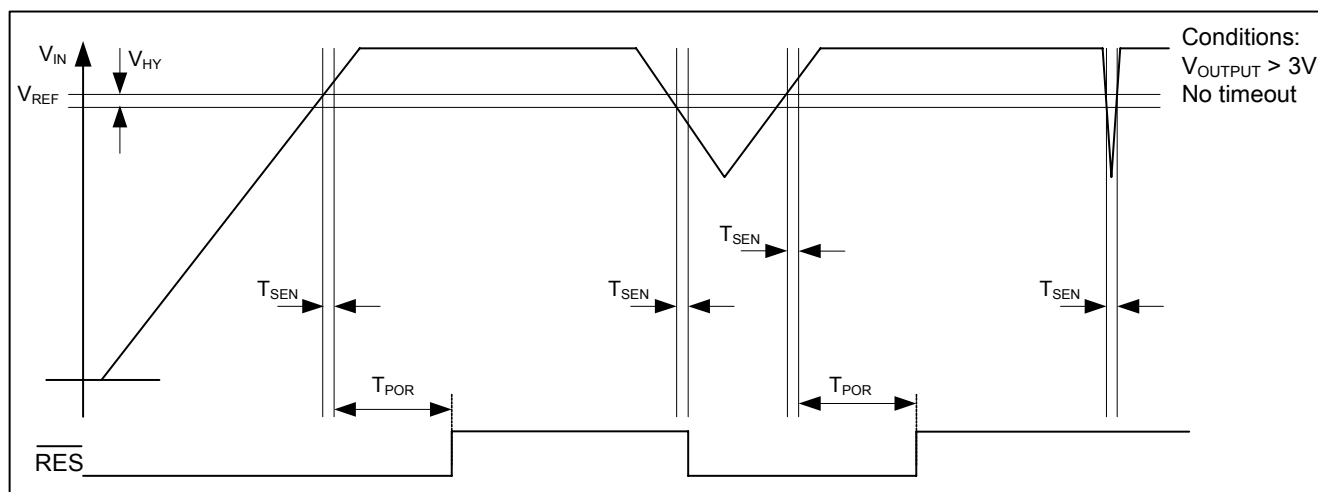

Fig. 5
- Note 6:** the comparator reference is the power-down reset threshold. The power-on reset threshold equals the comparator reference voltage plus the comparator hysteresis (see Fig. 5).
At power-up the reset output ( $\overline{RES}$ ) is held low (see Fig. 5). When VIN becomes greater than VREF, the  $\overline{RES}$  output is held low for an additional power-on-reset (POR) delay TPOR (defined with the external resistor connected at ROSC pin). The TPOR delay prevents repeated toggling of  $\overline{RES}$  even if VDD voltage drops out and recovers. The TPOR delay allows the microprocessor's crystal oscillator time to start and stabilize and ensures correct recognition of the reset signal to the microprocessor.